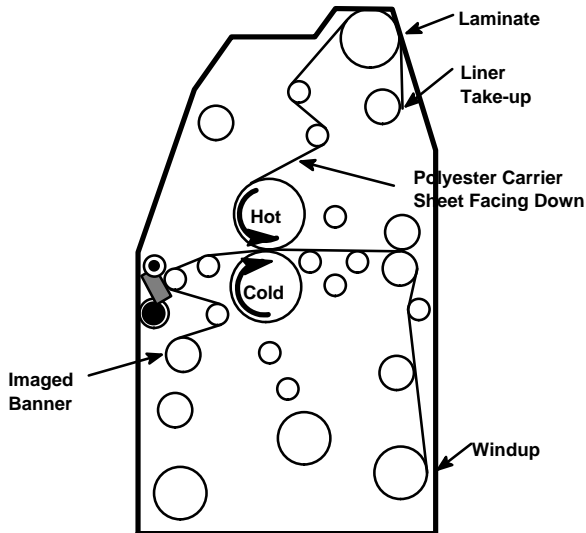

Figure 4. Applying Overlamine 8921 ES to a Banner Imaged With Trident Transfer Media
1. Roll the imaged banner material, image side out, onto a core. Be sure the core is a suitable size for the paper supply chuck. This step is necessary for proper tensioning. Mount the core on the laminator and thread it as shown in Figure 4, page 7.
2. Thread the overlamine through the laminator. See Figure 4 if you are using overlamine 8921 ES.